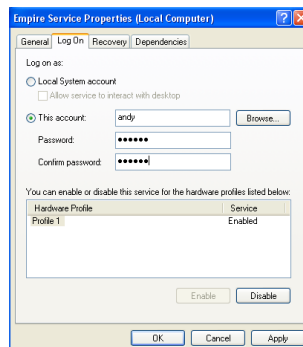

Figure 5.5.: Creating an account
- Enter your username and password if applicable, see Figure 5.5 and confirm